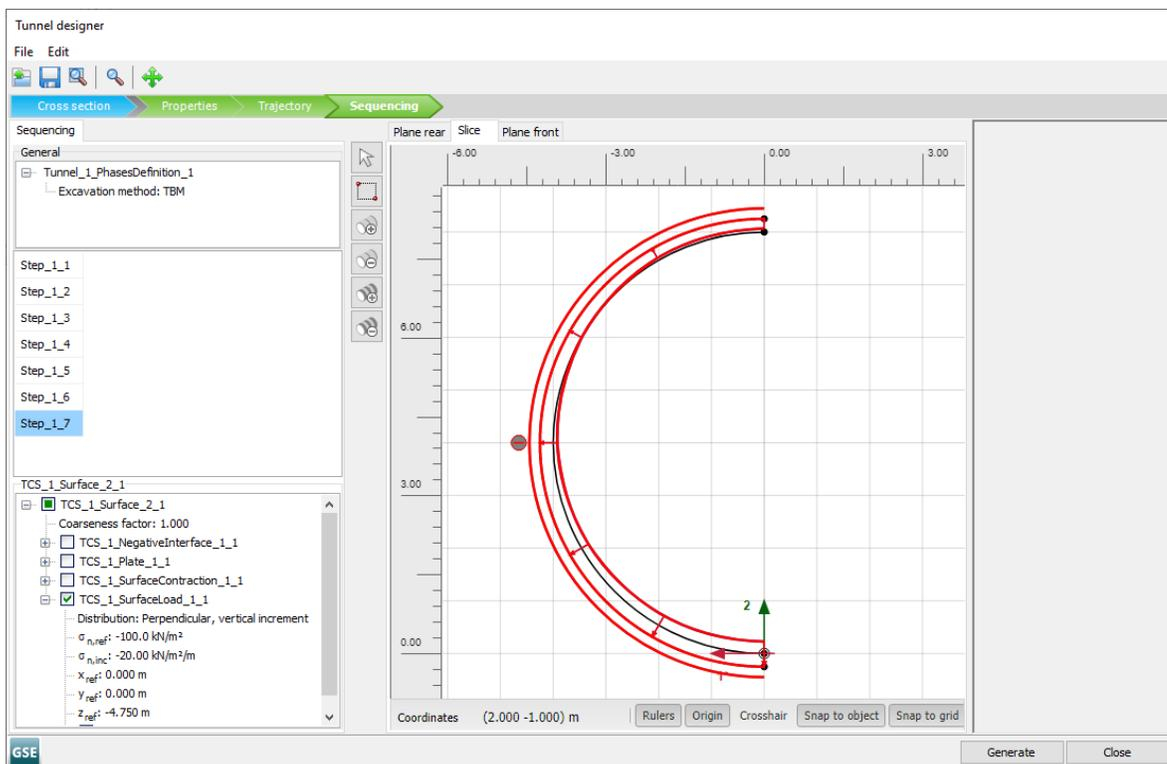

Figure 73: Slice tabsheet in the **Tunnel designer** Step_1_7
- In the **Selection explorer**, activate the surface load corresponding to the grout pressure (Figure 73 (on page 99)).